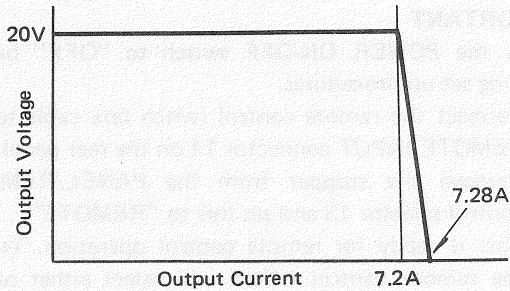

Figure 3
**NOTE:** If the output current exceeds around 7.2A, the overcurrent protective circuit operates and turns the overcurrent indicator 4 on. The circuit has a drooping constant-current characteristic as illustrated in Figure 3.